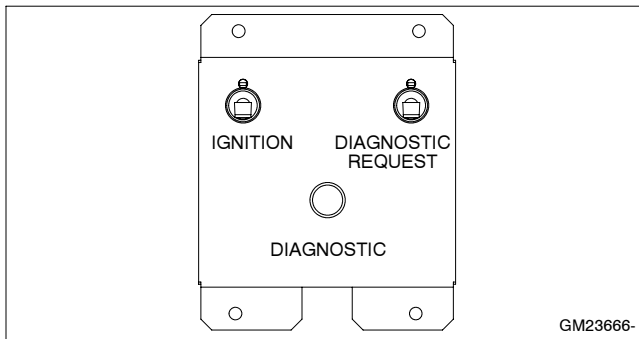

Figure 9 Engine Control Box
- 5.1 Locate the engine control box in the junction box. See Figure 9.